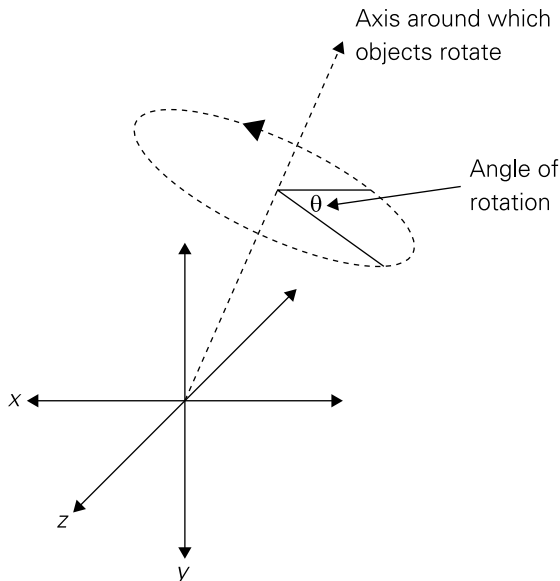

FIGURE 10-8: Rotation is defined by the axis around which objects rotate and the angle of rotation.
- Rotation requires a bit more understanding of three-dimensional coordinate systems. Whereas rotation in two dimensions occurs around a point, in three dimensions this must happen around an axis. Once this axis is defined, a convention must then be used to define whether clockwise or anticlockwise rotation occurs for positive values of rotation around this axis. OpenGL ES uses a right-handed coordinate system so the right-hand rule applies: curling the fingers of your right hand as you point your thumb in the air shows you the direction of positive rotation around an axis pointing in the direction of your thumb. For example, an axis defined by the vector (dx, dy, dz) with respect to the origin (where at least one of dx , dy or dz are non-zero) defines an axis about which each vertex can be rotated by a user-defined angle (which we call θ). (See Figure 10-8.)